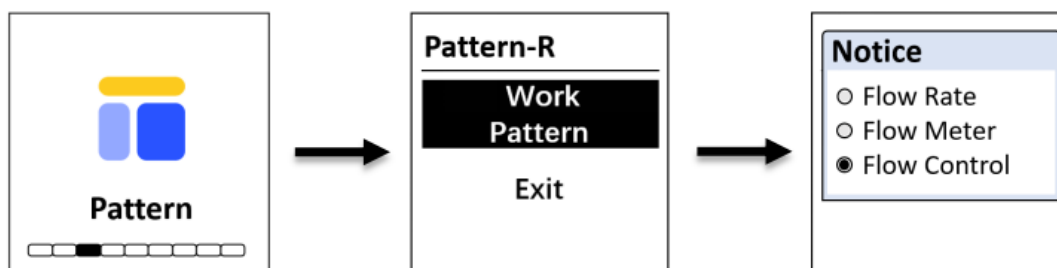

Figure. 5B - Operating Mode
When Flow Control Mode (C) is selected, a user defined flow rate setpoint must be entered (Figures 5B & 5C). The FS-100 will automatically control the regulating valve according to the preset flow rate with an internally calculated PID algorithm.